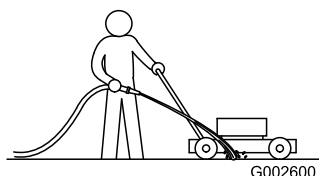

Figure 13
3. With the motor running and the blade engaged, spray a stream of water in front of the **right**, rear wheel (Figure 13).